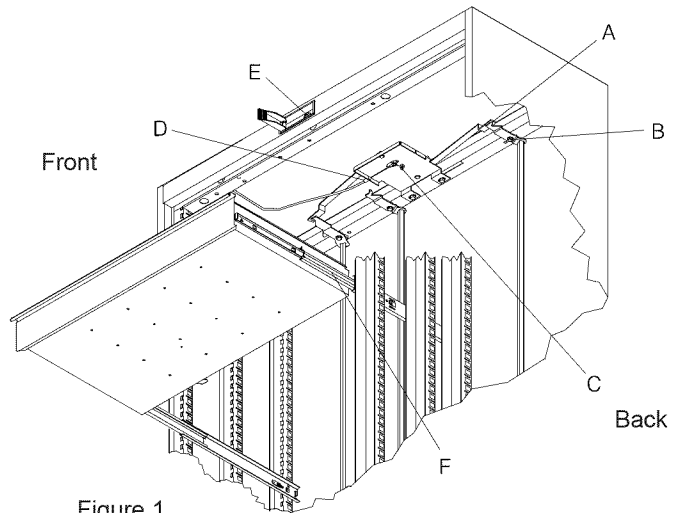

Figure 1
- The maximum weight for each (2) inch deep drawer is (120) pounds.
- The maximum weight for each (3) inch deep drawer is (200) pounds.
- The maximum weight for each (4) - (6) inch deep drawer is (320) pounds.
- The maximum weight for each drawer (9) inches deep or more is (400) pounds.
- Lubricate the Lockbar Pivot (A), Lockbar brackets (B), Lock Mechanism (C), and Cable ends (D) with spray lubricate twice yearly (See Figure 1)
- Lubricate the Lock (E) with graphite yearly.